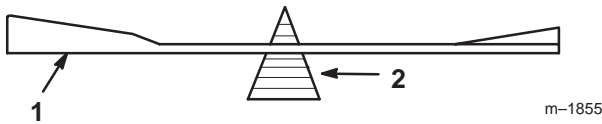

Figure 66
2. Check the balance of the blade by putting it on a blade balancer (Fig. 66). If the blade stays in a horizontal position, the blade is balanced and can be used. If the blade is not balanced, file some metal off the end of the sail area only (Fig. 64). Repeat this procedure until the blade is balanced.